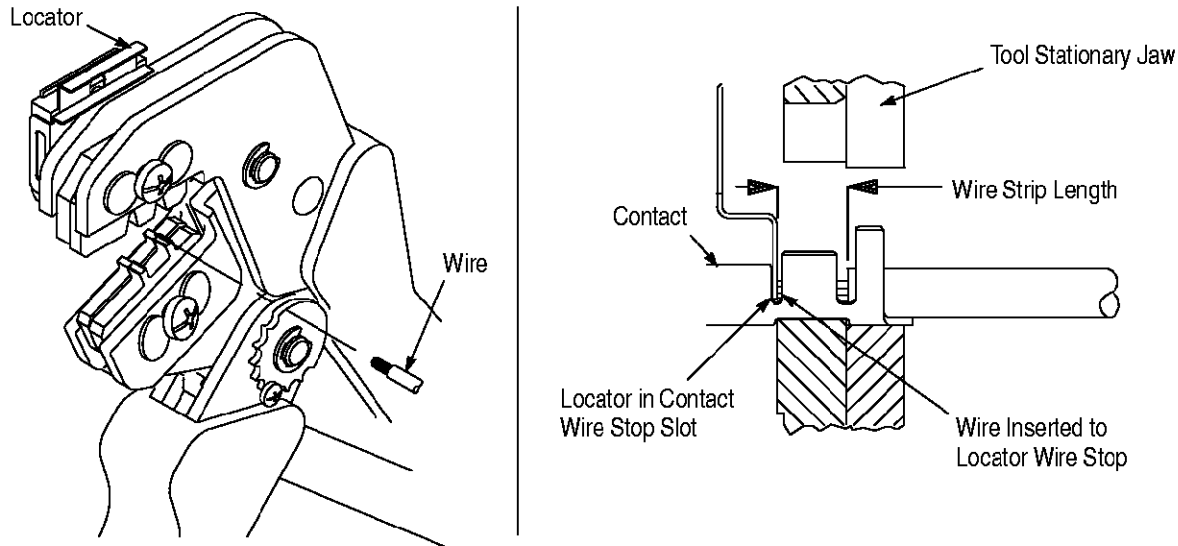

Figure 3
Refer to Figure 3, and proceed as follows:
5. Insert stripped wire into contact insulation and wire barrels until it is butted against the wire stop, as shown in Figure 3.
**NOTE** *The crimped contact may stick in the crimping area, but can be removed by pushing downward on the top of the locator (see Figure 3).*